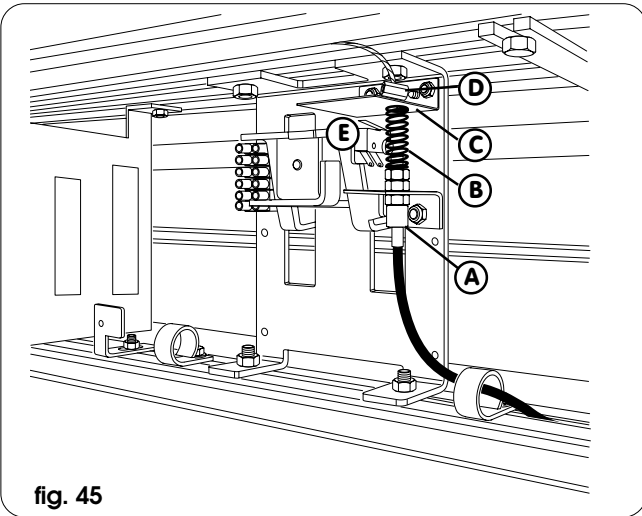

fig. 45
(fig. 45) without any narrow curves.
- Insert the steel wire in the padlock adjuster set to minimum (ref. A in fig. 45) and, using the spring (ref. B in fig. 45), allow it to exit from the hole on the angled piece (ref. C in fig. 45).
- Apply adequate tension to the steel wire and fit a clamp (ref. D in fig. 45), taking care, when the angled piece is at rest, that it does not activate the microswitch (ref. E in fig. 45).
- Pull the release knob, and check if the angled piece releases the padlock and presses on the lever of the microswitch until the latter is activated - if necessary, turn the adjuster (ref. A in fig. 45).